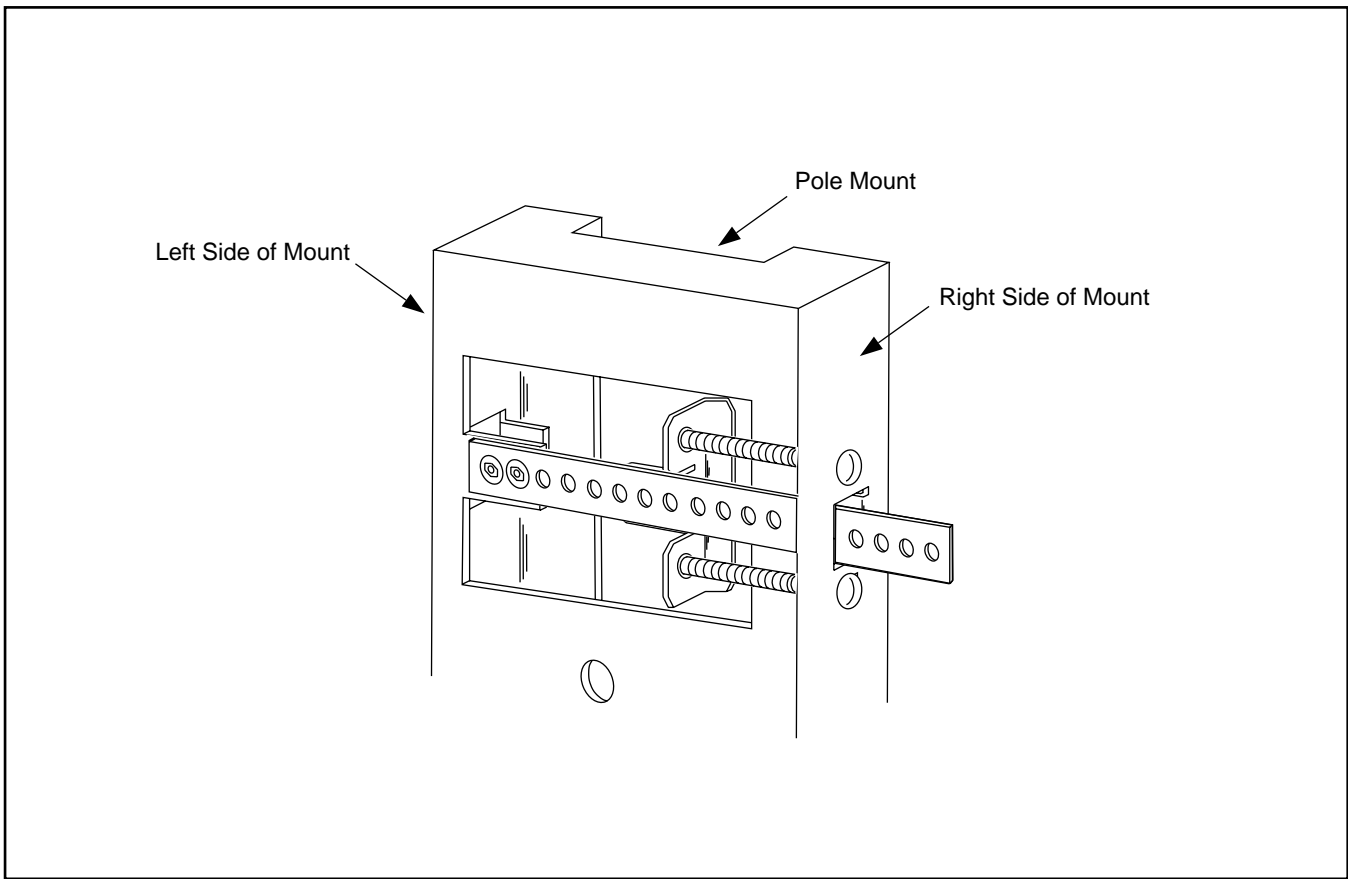

Figure 4-6. Pole-Mount Strap Attachment
8. Insert loose end of strap through strap hole on right side of bracket. Pull strap tight and attach to front strap mounting tab. See Figure 4-6 on page 4-18.